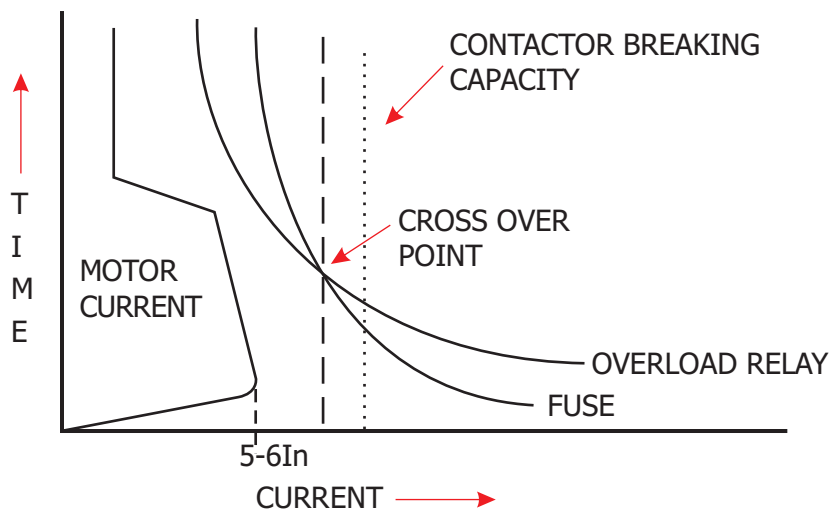

Fig. 3b
To understand various considerations for proper co-ordination, time-current characteristics of thermal overload relay, H.R.C. fuse, MCCB with only instantaneous release and MPCB are superimposed on motor starting characteristics in Fig. 3b, 4b and 5b. Intersection of characteristics of thermal overload relay and Fuse / MCCB / MPCB is termed as 'cross-over point' and corresponding current as 'cross-over current'  $I_{co}$ .
- Thermal overload relay of appropriate 'Trip Class' is selected. Time current characteristics of the relay should remain above motor starting characteristics as shown in Fig. 3b and 4b